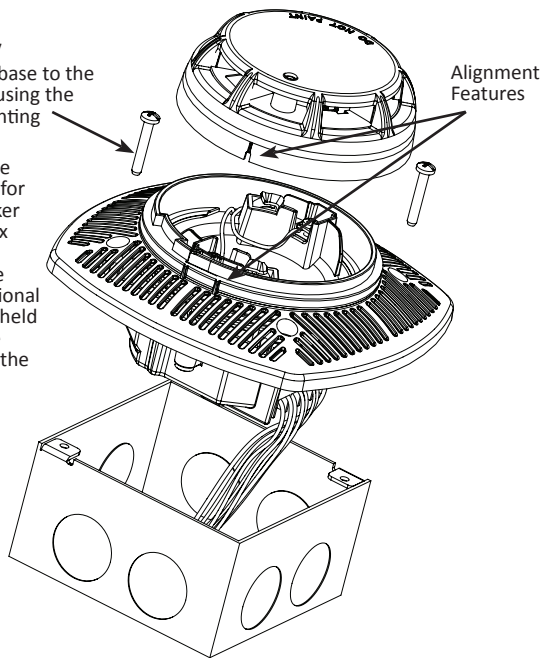
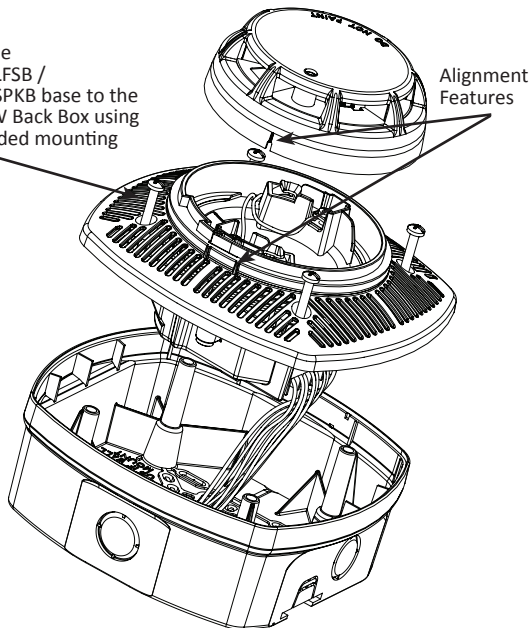

FIGURE 6a: Assembly of Detector on Electrical Box
FIGURE 6b: Assembly of Detector on LFSBBB-W Back Box
PAD100-LFSB / PAD100-SPKB should be mounted directly on the electrical box (FIGURE 6a) or to the LFSBBB-W back box (FIGURE 6b). The PAD100-LFSB / PAD100-SPKB mounting holes are configured for a 4" x 2-1/8" deep square box. Use a box for each base and run the power circuit to all base locations.
- 3. To install the detector head onto the base, match the detector heads to the base using the alignment feature and twist clockwise until the detector heads snap into place (FIGURE 6a).